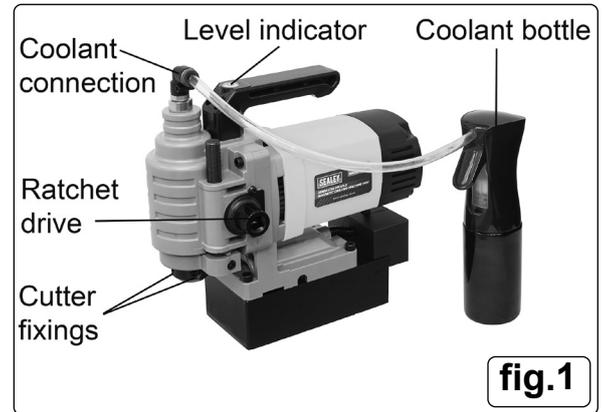

fig.1
4.1. ATTACH COOLANT BOTTLE (fig.1)
4.2.2. Insert cutter and tighten the two cutter fixings (fig.1).
NOTE: When using drill vertically use the level indicator (fig.1).
NOTE: Lubricate cutter by frequently squeezing trigger on coolant container (fig.1).
- 5.6.2. Use ratchet drive (fig.1) to move the cutting bit towards the workpiece.